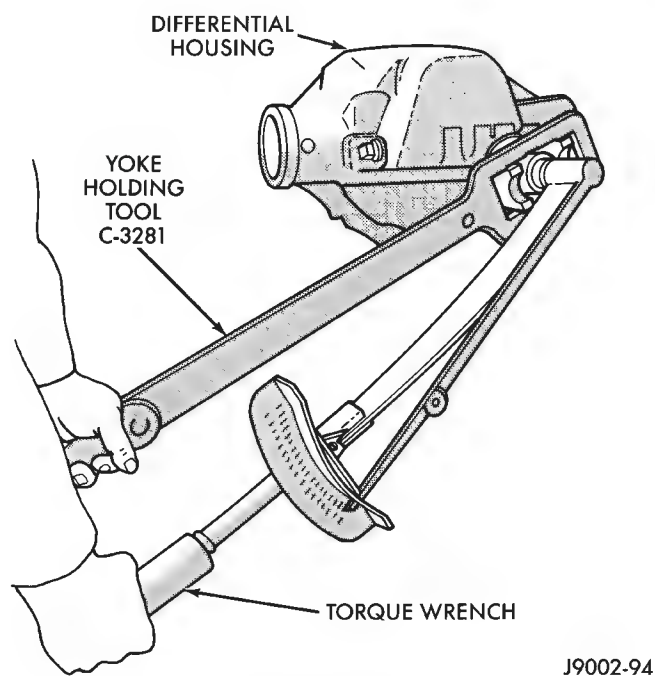

Fig. 53 Tightening Pinion Nut
(10) Install the yoke washer and **old nut** on the pinion gear. Use Flange Wrench C-3281 to retain the yoke (Fig. 53). Tighten nut to 216-352 N·m (160-260 ft.lbs.) torque.